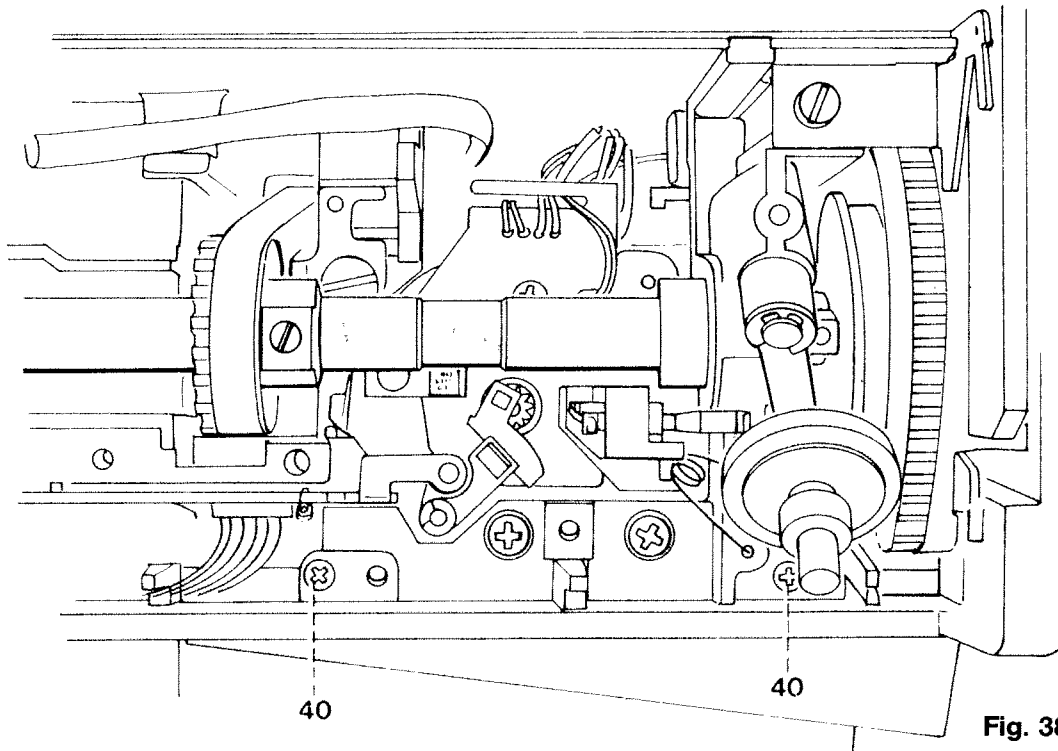

Fig. 38
- Unscrew the two screws 40 (Fig. 38).